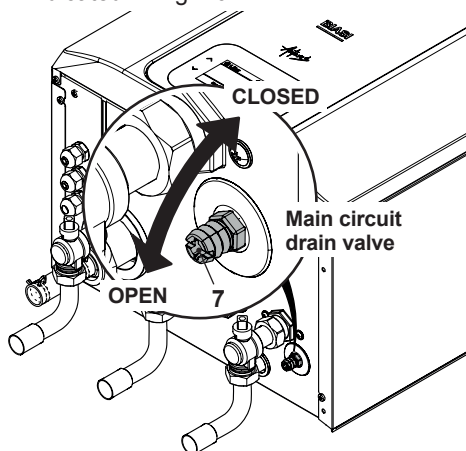

Fig. 10.11
- Loosen the central heating drain cock 7 indicated in Fig. 10.11.